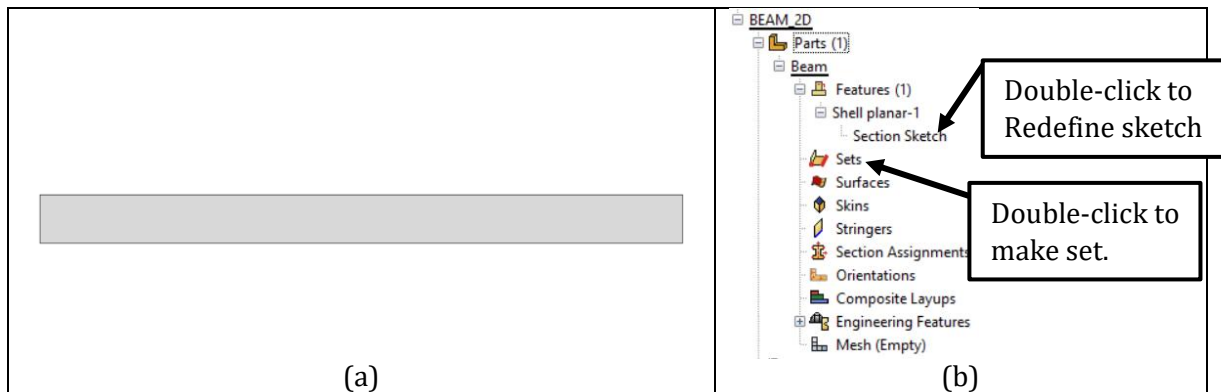
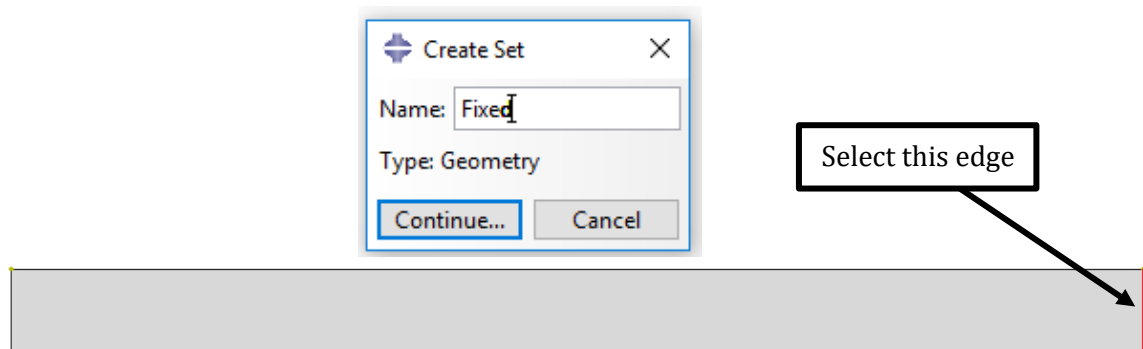

Figure 2-6 – Planar part and Model Tree.
Figure 2-7 – Create Set dialog box and selected edge for the set "Fixed".
7. Abaqus/CAE displays an isometric view of the new part, as shown in Figure 2-6(a). The Part **Beam** is now added to the **Model Tree** in Figure 2-6(b). If you want to make any changes to the sketch, double-click on **Section Sketch** (See Figure 2-6(b)).
9. In the **Model Tree** under BEAM → Parts → Beam, double-click on **Sets** (See Figure 2-6(b)). Name this set **Fixed** and click **Continue...** in the **Create Set** dialog box. Select the right edge of the model, as shown in Figure 2-7. Use the **Rotate View** tool (🔄) in order to rotate the model.